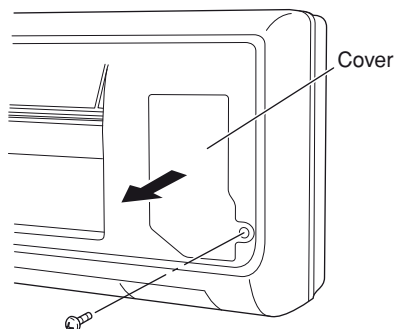

Fig. 24a
- (1) Grasp both ends of the air intake grille, and remove it by opening towards the front and pulling towards you.
- (2) Remove the screw on the right side cover plate and open the cover. (Fig. 24a or 24b)